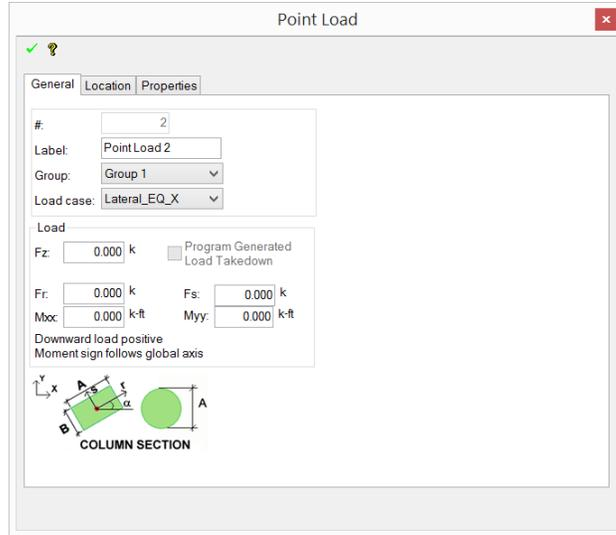
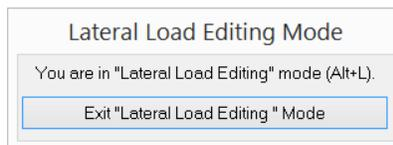

Figure 7.4-5 - Load Definition Property Window
Figure 7.4-6
- Double click on the symbol generated for a point load to open its property box (Fig. 7.4-5). At this time the *Lateral Load Editing Mode* window will open (Fig. 7.4-6). Under the “General” tab of *Point Load* property box, enter the orientation and magnitude of the forces and moments you wish to specify.
When finished with editing of point loads for the given load case click *Exit Lateral Load Editing Mode*. (**Fig. 7.4-6**). Double click on the load that you want to modify. This will activate *Lateral Load Editing Mode*. When you finish with load editing close the *Lateral Load Editing* window.